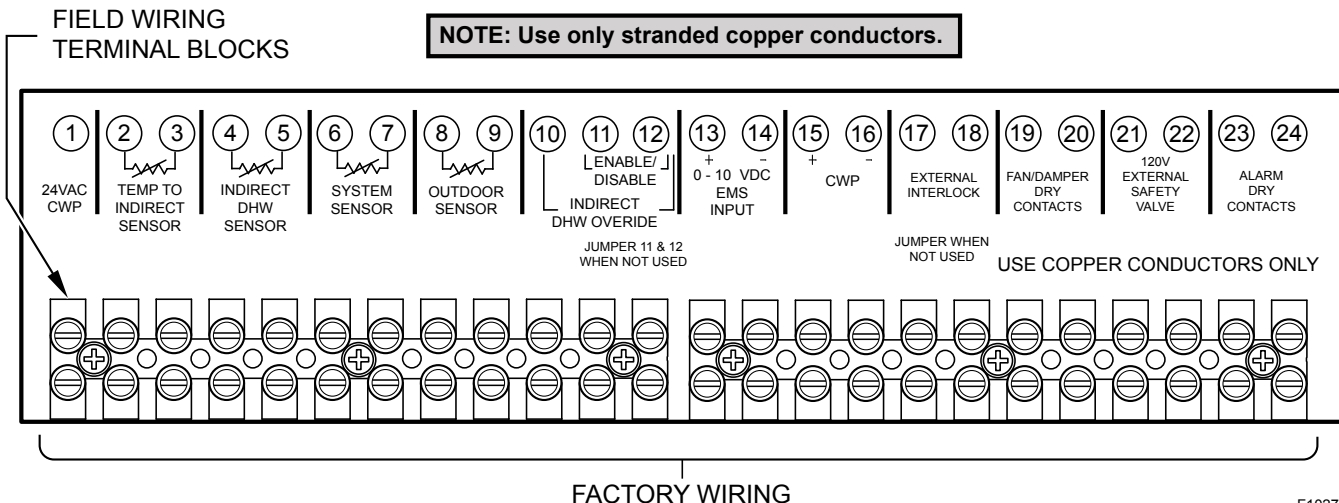

Figure 21. Low Voltage Field Wiring
2. If using an Outdoor Air Sensor, connect the sensor wires to the terminals marked OUTDOOR SENSOR. See Figure 21 on page 24. Caution should be used to ensure neither of these terminals becomes connected to ground.